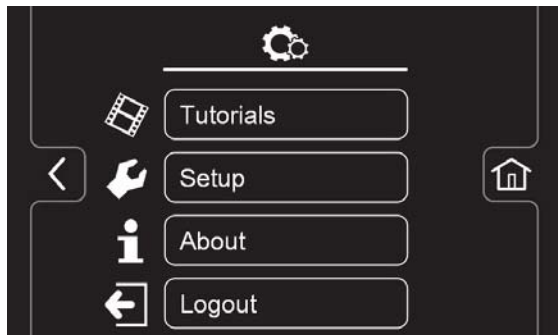

FIG. 57
9.  Press the Settings icon on the operator home screen to access the following screen (Figure 57). The buttons are explained as follows.